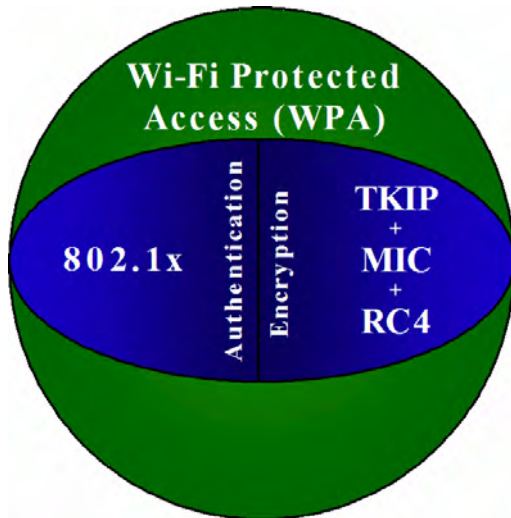

FIG. 89 WPA Overview
- To resolve problems with WEP, the Wi-Fi Alliance released WPA (FIG. 89), which integrated **802.1x**, **TKIP** and **MIC**. Within the WPA specifications, the RC4 cipher engine was maintained from WEP. RC4 is widely used in SSL (Secure Socket Layer) to protect internet traffic.